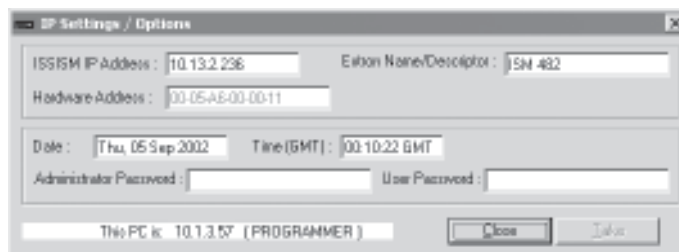

Figure 5-8 — Control program IP Setting/Options window
The IP Settings/Options screen (figure 5-8 on page 5-6) provides a location for observing and, if you are connected via the RS-232 link or if logged on via the Ethernet port as an administrator, editing settings unique to the Ethernet interface. None of the fields on this screen can be edited while you are logged on as a user. See “System Configuration Page” in chapter 6, “Ethernet Operation”, for details on the contents of these fields. See appendix A, “Ethernet Connection”, for other basic information about Internet protocol.
7. If desired, on the task bar, click **Tools > IP Options** to set the switcher's IP parameters in the IP Settings/Options window (figure 5-8).